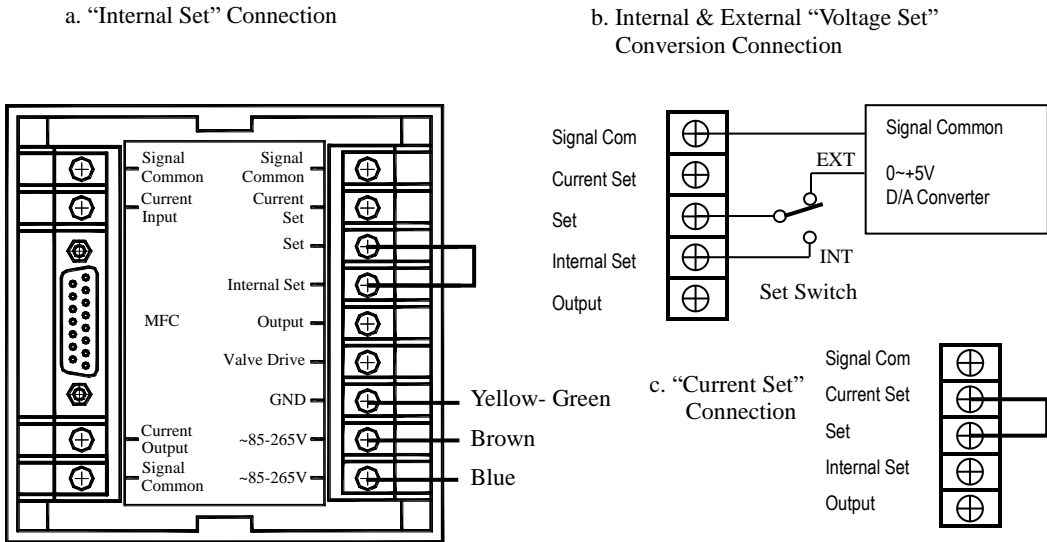

Figure 10. Back View of D08-1F&1FP Connection
- Connecting to power supply, after 20 seconds, for the display value, adjust the potentiometer RP3 (showing in figure 10) by screwdriver to match the same full scale value of bypass (Please be attention, the display data range is 0~1999 of corresponding 3 and 1/2 digital voltage meter and simultaneously matching position of radix point.)